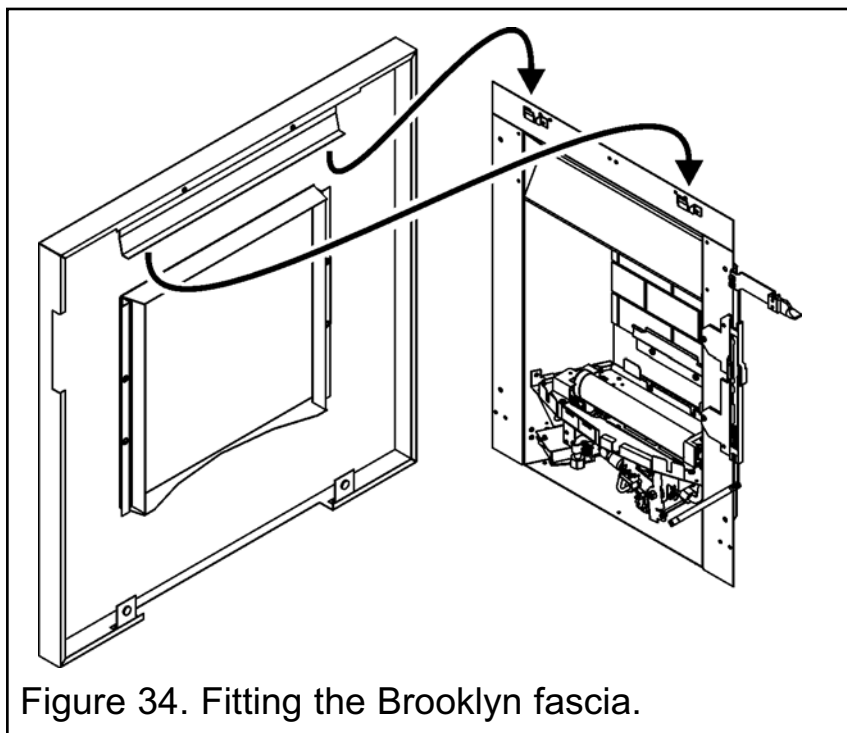

Figure 34. Fitting the Brooklyn fascia.
8. The lower section of the fascia has two tabs. Locate these into the slots in the fascia (See figure 34). It may be necessary to re-position the magnets that secure the lower section.
2. Fit the fascia to the appliance by locating the upper bracket to the upper hanging brackets on the hotbox (See figure 34). The lower section of the fascia is fitted with magnets. Gently swing the fascia towards the hotbox and the magnets will secure the fascia in place.